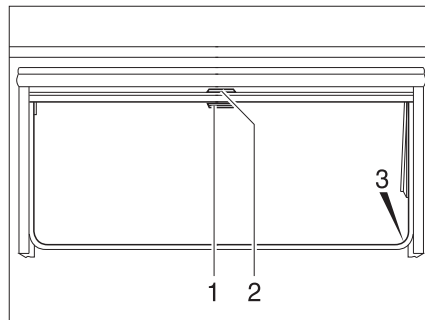

Fig. 41 Hinged window
Closing: ■ Pull blind at the handle (Fig. 41,2) downwards. If the blind is to be completely closed, it is suspended into the locking devices (Fig. 41,3) situated on both sides of the window frame.
Opening: ■ If the blind is completely closed: Press the handle (Fig. 41,2) downwards and, at the same time, tilt it slightly inward. The blind can be taken out of the locking devices situated on both sides of the window frame.
■ If the blind is in an intermediate position: Pull the handle (Fig. 41,2) slightly downwards until the locking device releases.
- Pull the roller insect screen at the handle (Fig. 41,1) downwards and hang it into the locking devices (Fig. 41,3) situated on both sides of the window frame.
- Press the handle (Fig. 41,1) downwards and, at the same time, tilt it slightly inward. The roller insect screen can be taken out of the locking devices situated on both sides of the window frame.